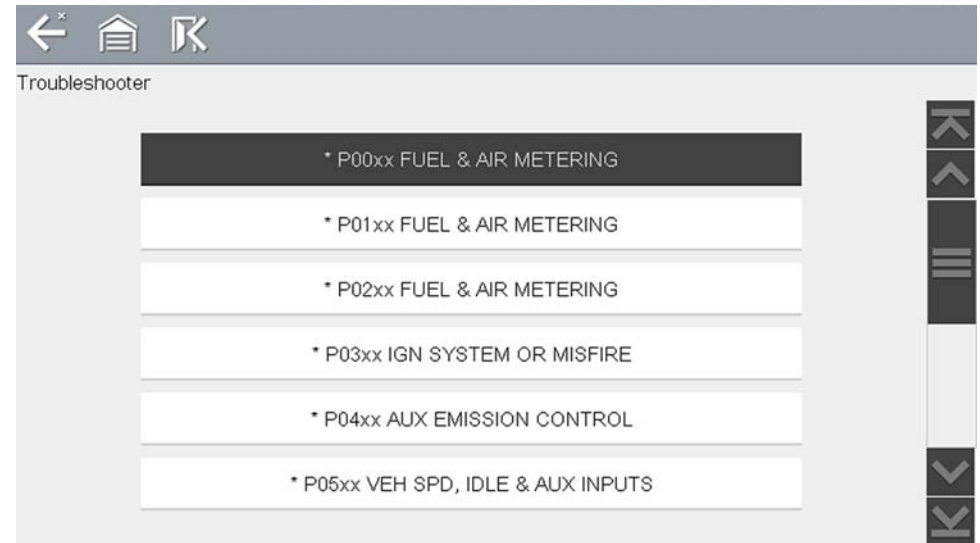
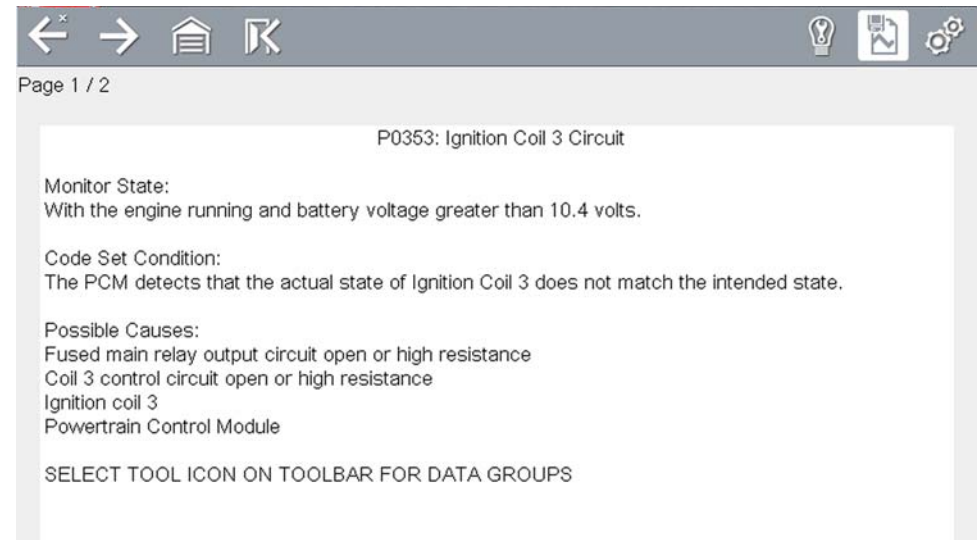

Figure 6-48 Troubleshooter code tip menu
Figure 6-49 Troubleshooter tip (Example: P0353)
- **Code Tips**—provides detailed information on setting conditions, testing, and interpreting test results for specific codes (Figure 6-48 and Figure 6-49).